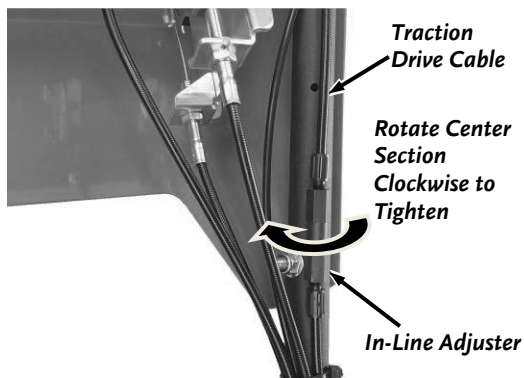

Figure 31
- Locate the Traction Drive Cable along the right Handlebar (**Figure 31**). There is an In-Line Adjuster to change the length of the Cable.